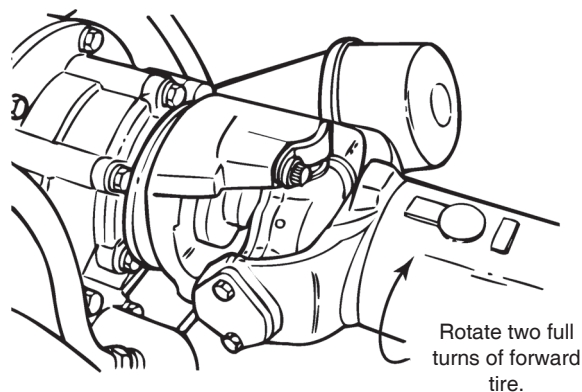

Figure 4.17
6. Turn the forward driveshaft in one direction by hand until the forward tire completes two rotations. Figure 4.17. The forward tire must rotate two times only. If the forward tire rotates more than or less than two rotations, the angle measurements you make in Step 7 will be inaccurate